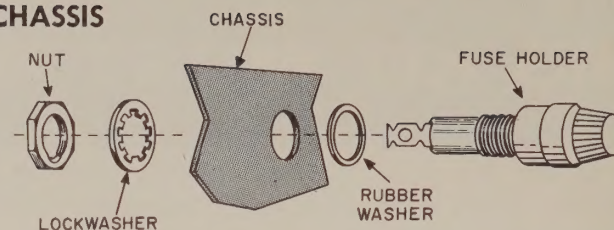

FIGURE 4. FUSE HOLDER MOUNTING
- ☐ Fuse holder. Position with the terminals as shown. Mount as shown in Figure 4.